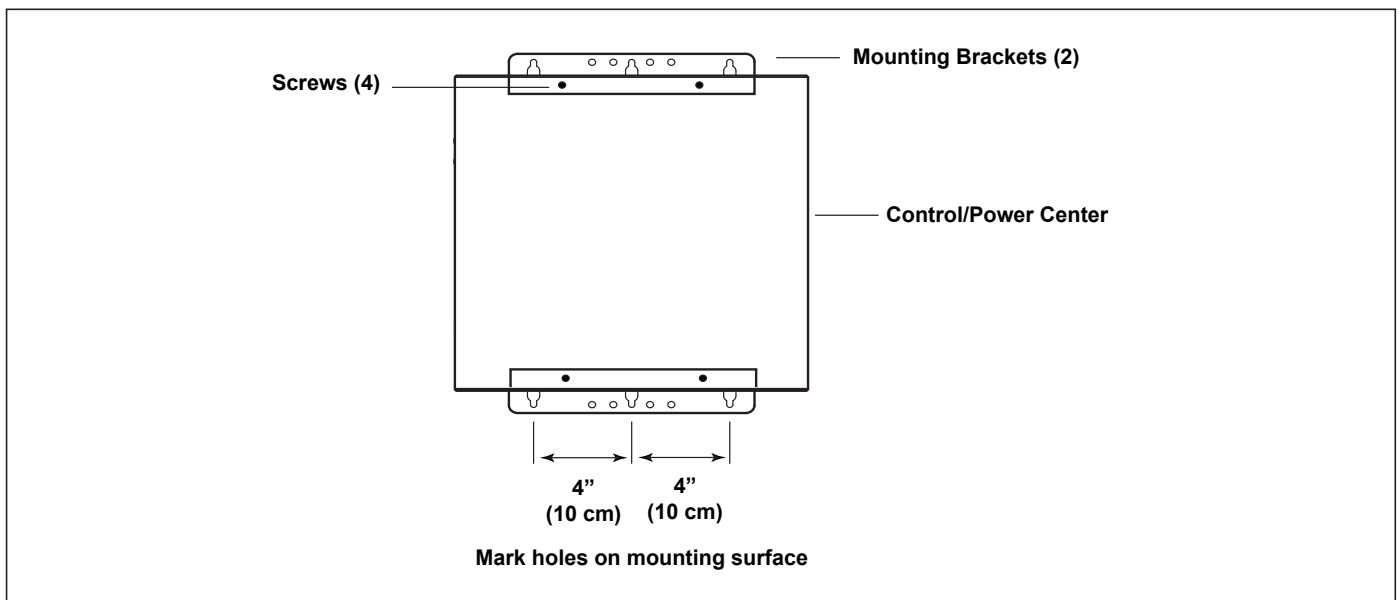

Figure 7. Power Pack Installation
2. The control/power center comes with two (2) full length, heavy duty mounting brackets *fastened* to the back of the power center during shipping. Remove the four (4) screws that are holding the two (2) brackets and the cardboard shipping cover in place (see Figure 7). Remove and discard the cardboard.
3. Using the top mounting bracket as a guide, mark three (3) holes on the mounting surface where the power center will be installed. Drill the holes in the mounting surface.